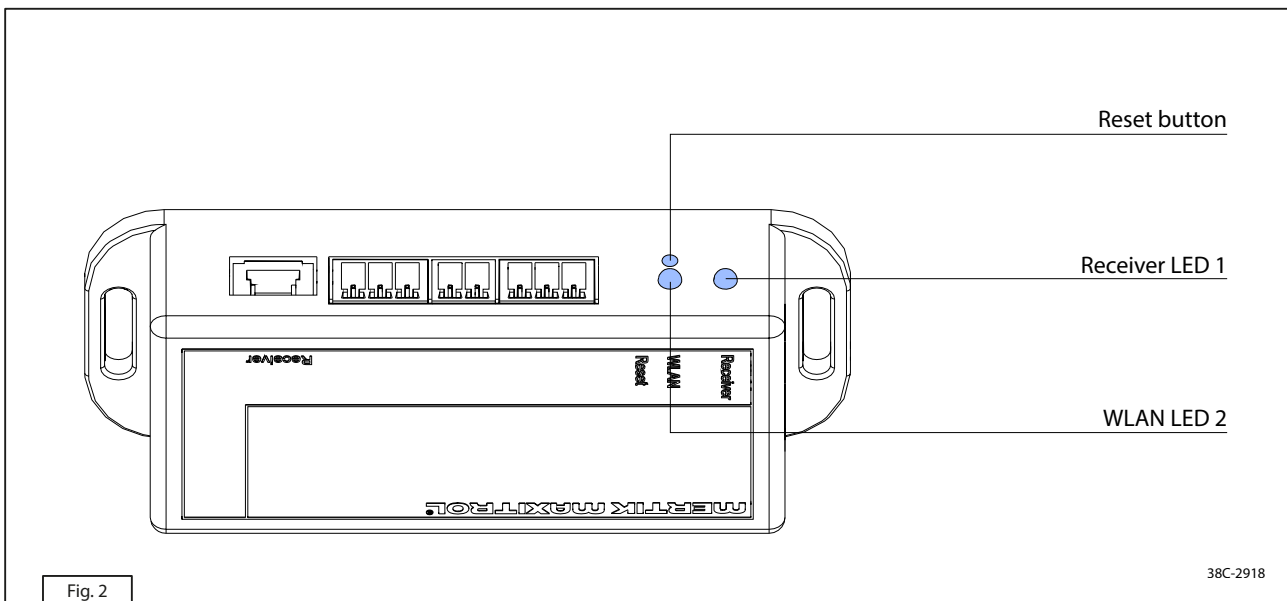

Fig. 2
The Wifi-module has 2 different LED indicators and a reset button (Fig. 2). The different LEDs with their related colors are listed in Table 1-1.
When dismantling the burner surface, proceed as follows (see Fig. 2):
- Adjust the adjustment ring of the left upright burner using spacer 8.5 (F) using the allen key provided in the conversion kit (Step 1).
- Adjust the adjustment ring of the main burner using spacer 10.5 (E) using the allen key provided in the conversion kit (Step 2).
- Adjust the adjustment ring of the right upright burner using spacer 11 (G) using the allen key provided in the conversion kit (Step 3).
- Carry out steps 1 to 6, Section 1.2 (Fig. 2), in reverse order.